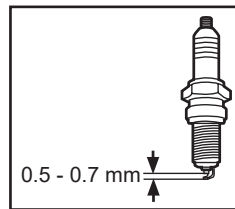

Fig. 14
- Check the spark plug gap. It should be 0.5 – 0.7 mm (Fig. 14).